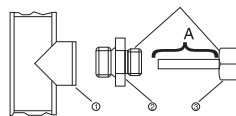

Fig.4
1. To screw the nut smoothly, please add the lubricant to nut ③ and threads. (Fig.4)
2. Screw a suitable adaptor ② to the joint ①. (Fig.4)
3. Insert the sensor to the adaptor and then screw the nut ③
The Max screwing torque: 50Nm. (Fig.4)
- To screw the nut smoothly, please add the lubricant to nut ③ and threads. (Fig.4)
- Screw a suitable adapter ② to the joint ①. (Fig.4)
- Insert the sensor to the adapter and then screw the nut ③. The Max screwing torque: 50Nm. (Fig.4)